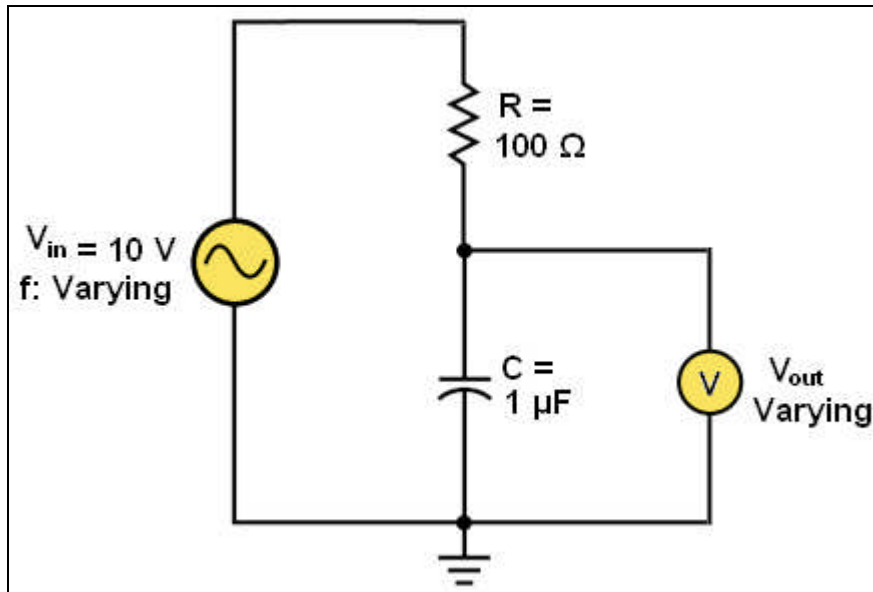

Fig. 2.3-10 Example of RC Low-Pass Filter Action
Fig. 2.3-10 shows a specific series of measurements for RC Low-Pass Filter in which the frequency starts at zero (DC) and is increased in increments up to 20 kHz. At each frequency point, the output voltage is measured (Table 2.3-1). The capacitive